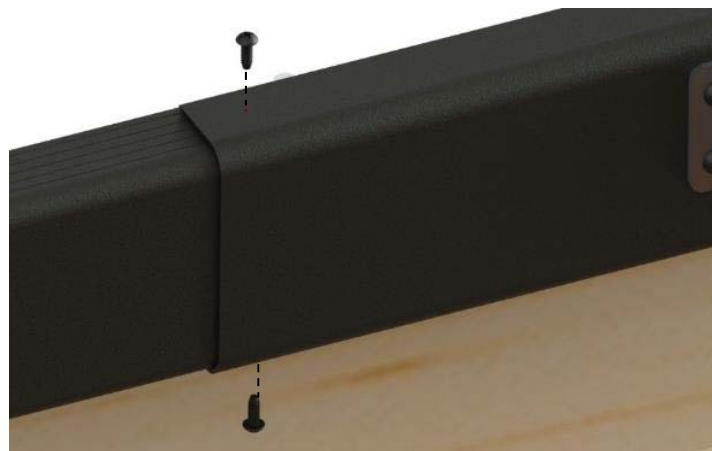

Figure 40
38) Screw in the painted Phillips 10–24 x 1/2" thread cutting screws at the bottom and top of the support bracket (four screws per bracket) (Figure 40).